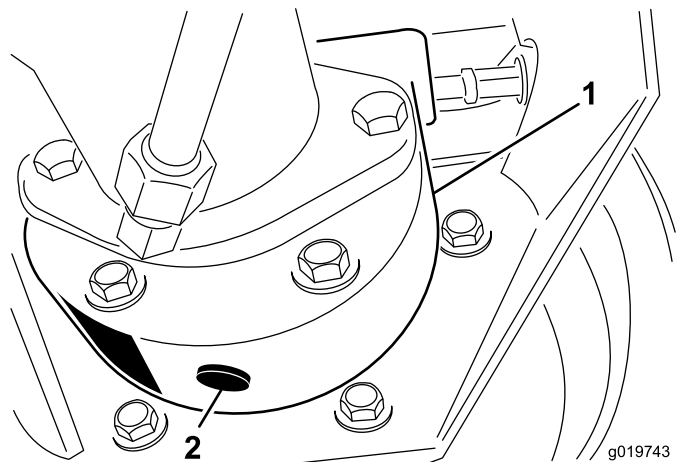

Figure 55
3. Place a drain pan under the brake housing, remove the drain plug, and allow the oil to drain (Figure 55).